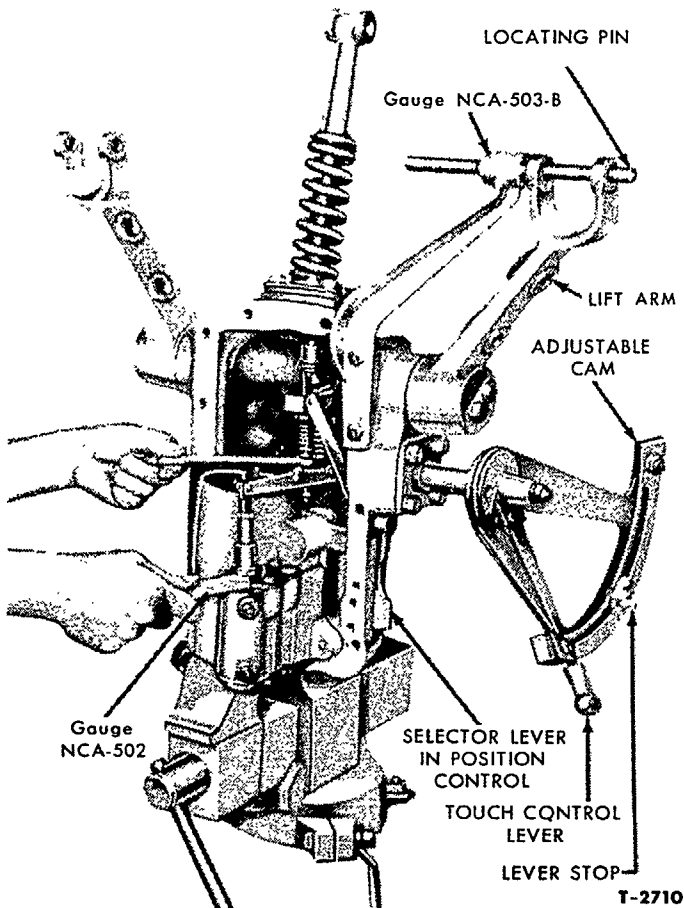

Figure 2—Adjusting Control Valve in Implement Position Control
3. Check the clearance between the control valve land and the machined surface of the cylinder using the position end of Gauge NCA-502, Figure 2. The gauge should be a snug slip fit between the control valve and cylinder. Adjustment is made by holding the lock nut and turning the position control rod, as required to get the proper tool fit. After adjusting, recheck with the gauge.